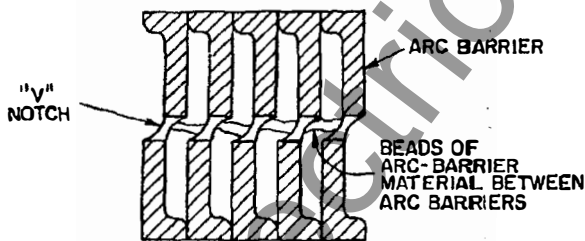

Fig. 21. Arc barriers with connecting beads
2. The vanes should be checked for continuous beads resulting from the gutting which makes a continuous path across more than a few vanes (3) of the arc chute, (see Fig. 21). These beads offer a current-conducting path which reduces the length of the interrupting arc. Any vanes with the continuous bead between them must be replaced.